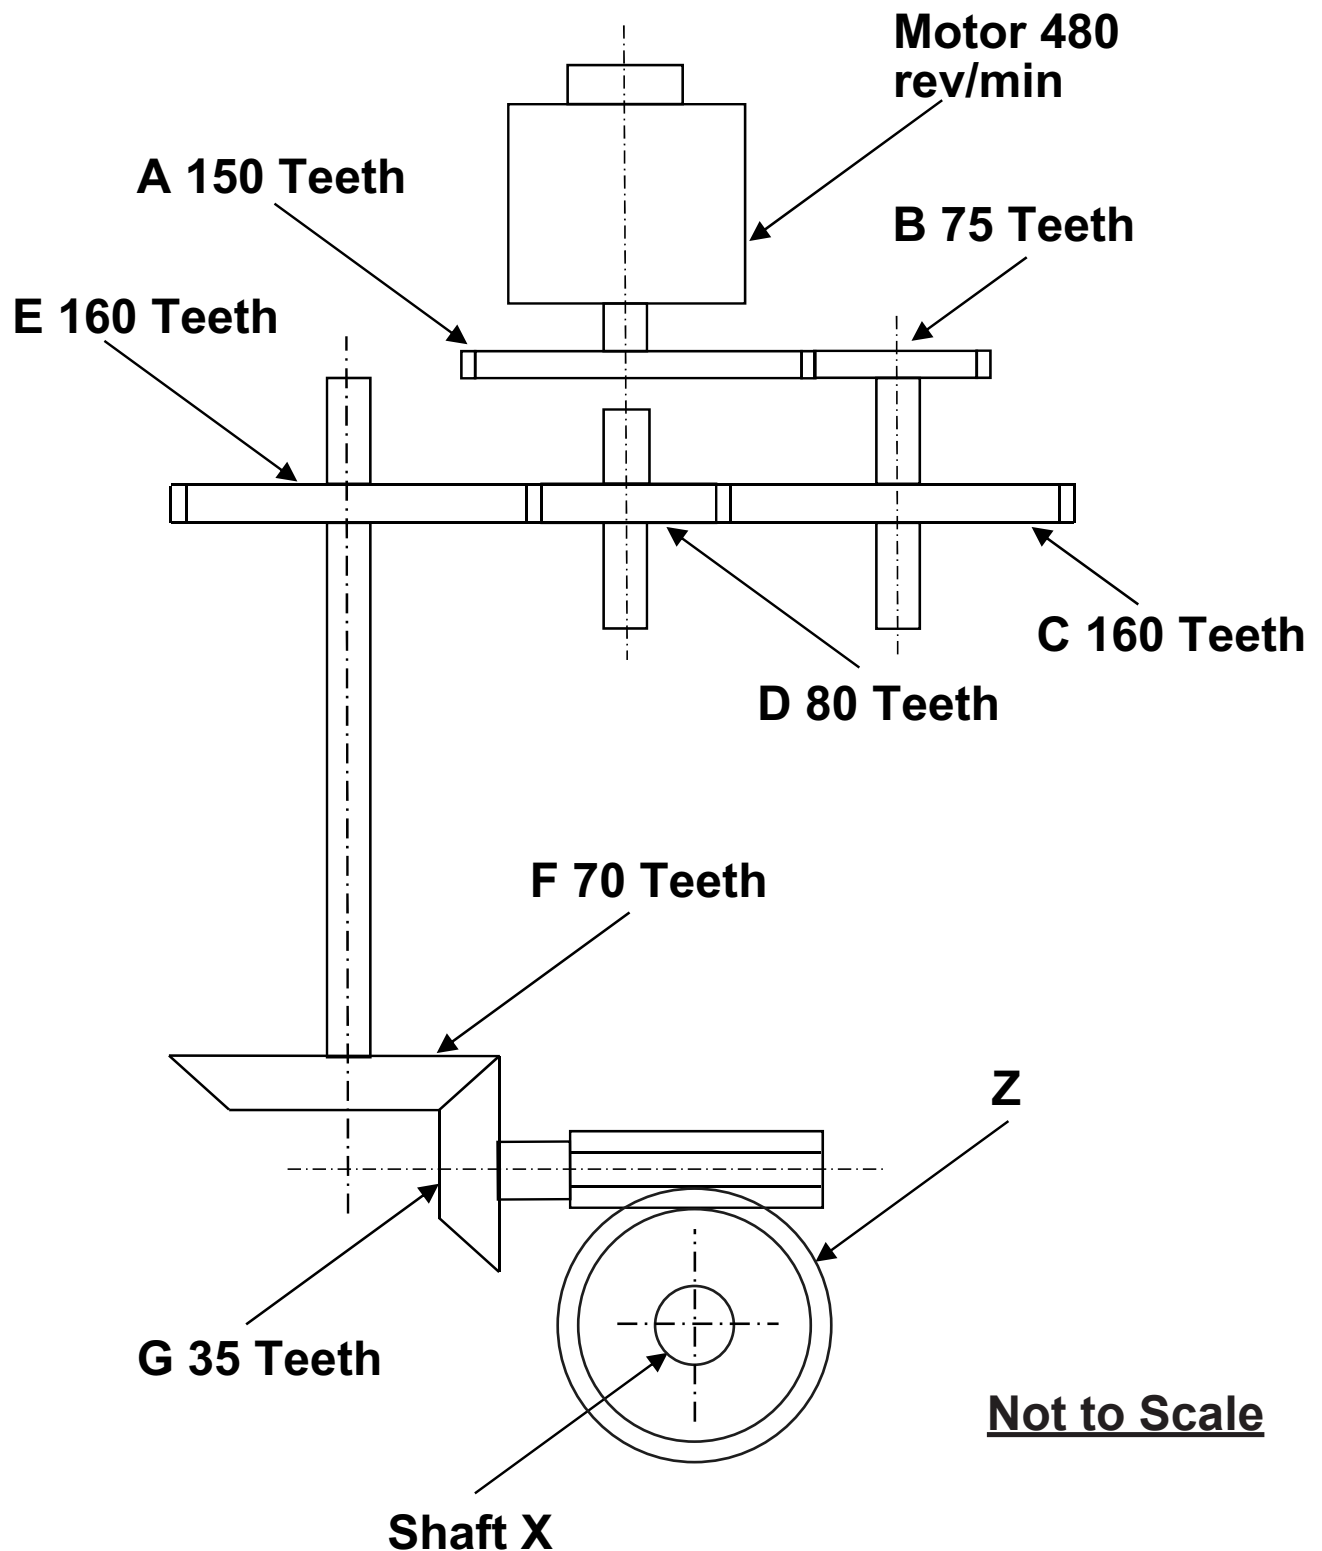

Fig. 12
- 4 **Fig. 12** shows a prototype mechanical system used to provide rotary motion to **Shaft X**.